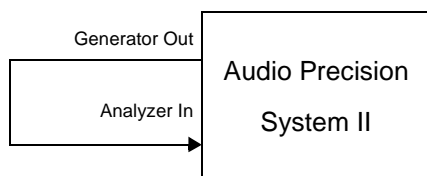

Figure 1 Setup Test Configuration
1. Connect the input of the Audio Precision System II to the output (see Figure 1).